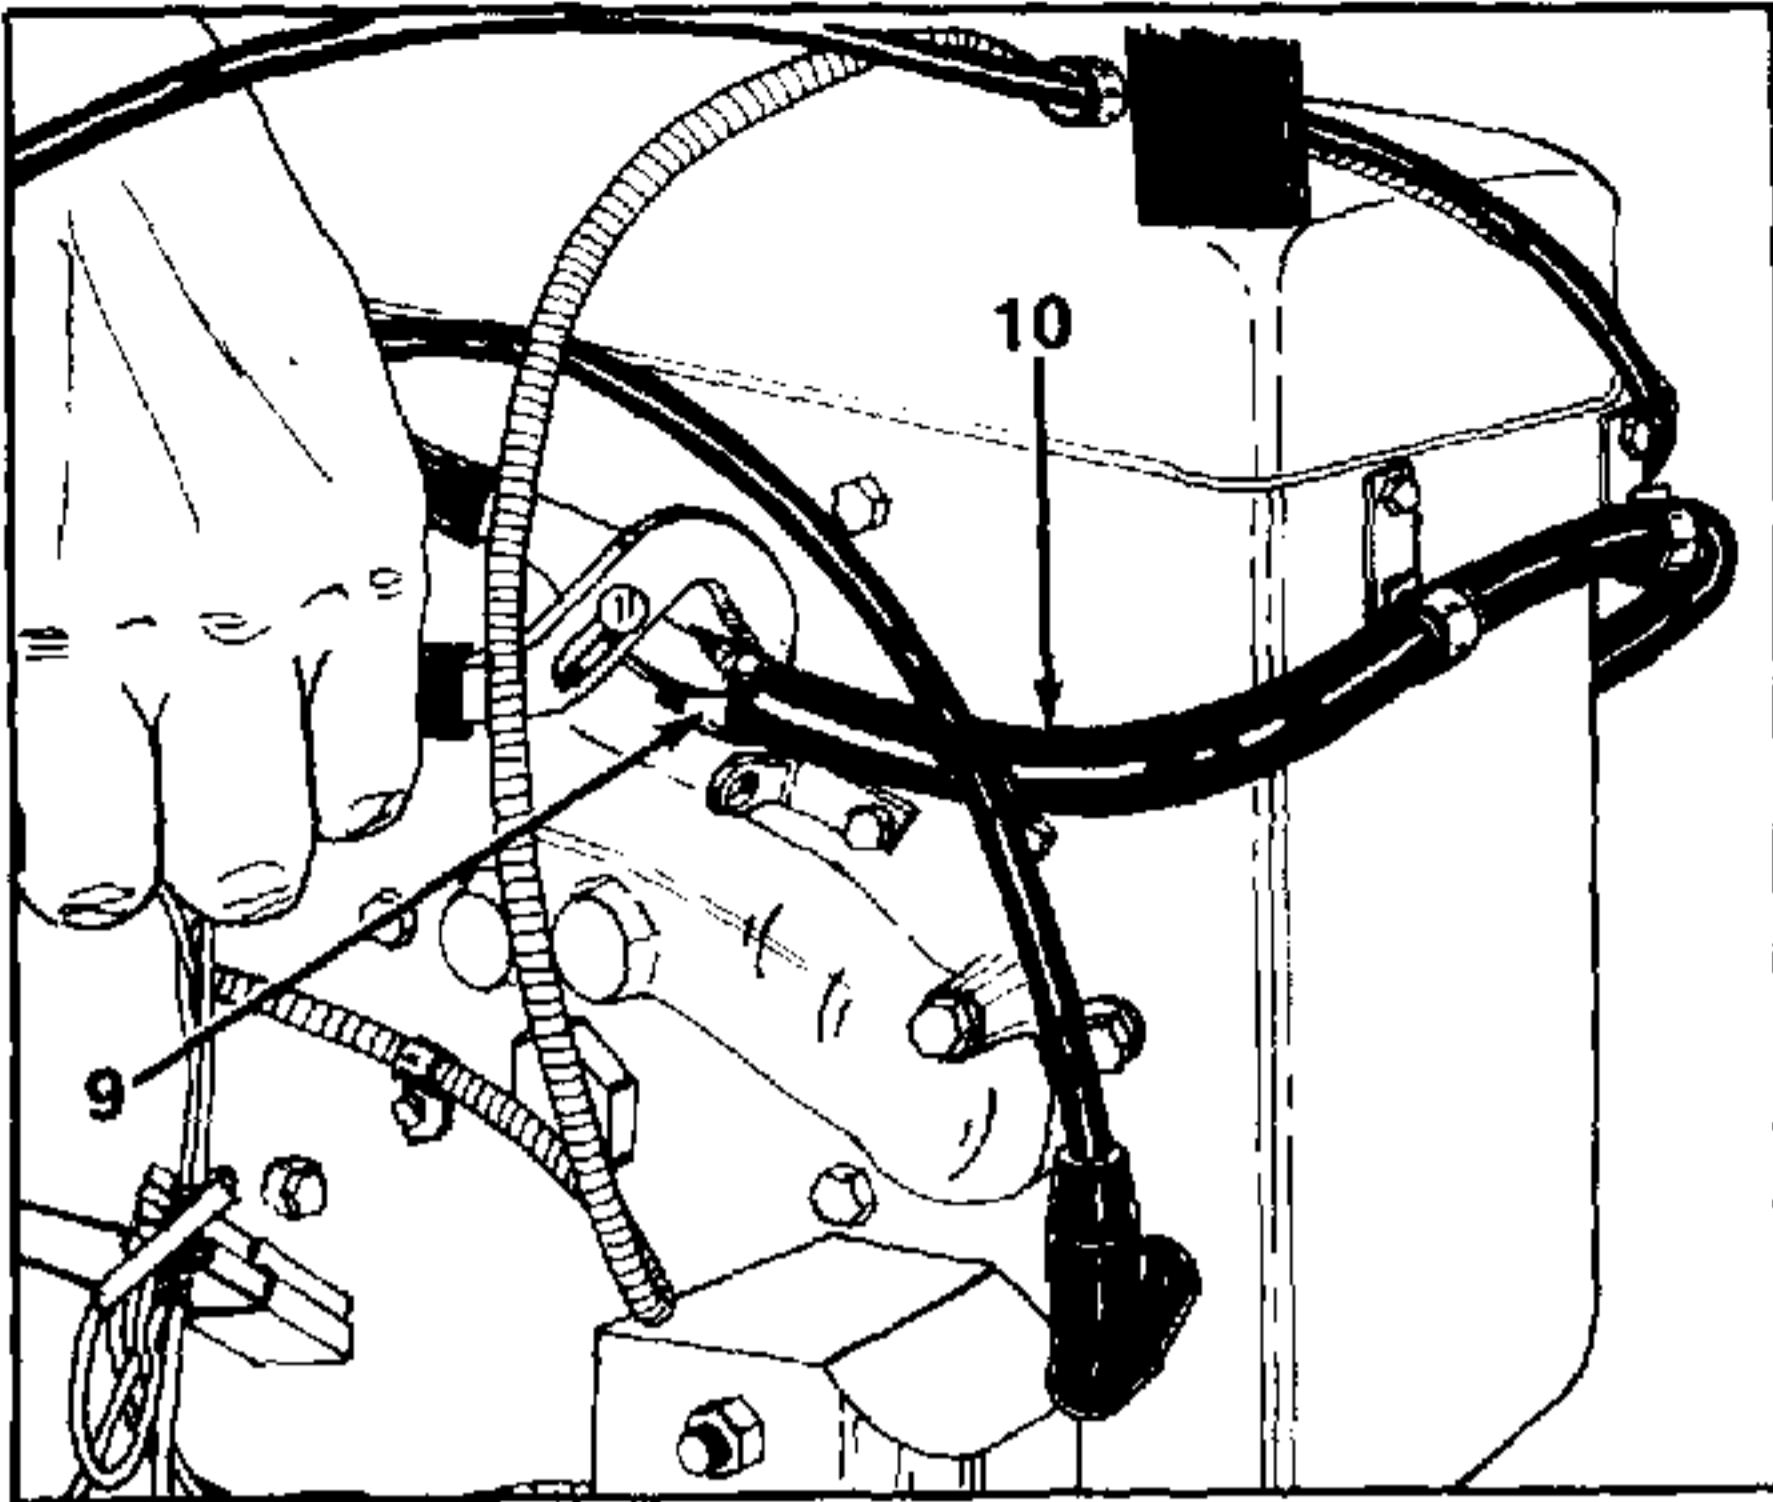

FIGURE 4.
7. Disconnect the fuel line and fuel line clamp from the fuel pump. See figure 4.